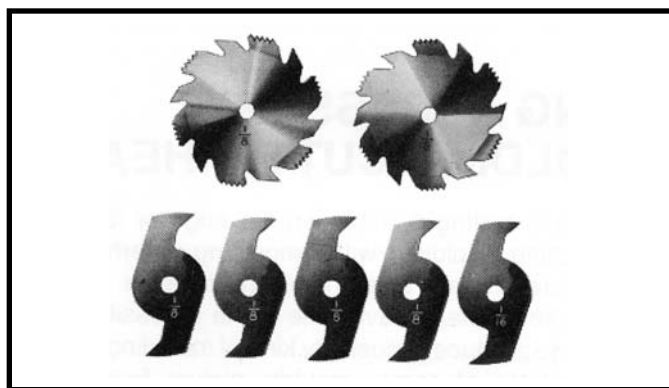
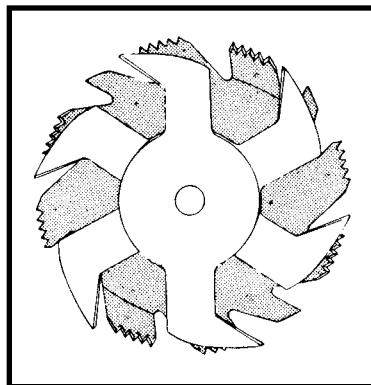
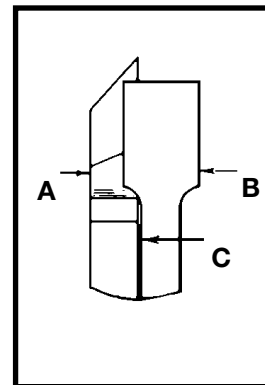

Fig. 136
Fig. 137
Fig. 138
1. Dadoing is cutting a rabbet or wide groove into the work. Most dado head sets are made up of two outside saws and four or five inside cutters, (Fig. 136). Various combinations of saws and cutters are used to cut grooves from 1/8" to 13/16" for use in shelving, making joints, tenoning, grooving, etc. The cutters are heavily swaged and must be arranged so that this heavy portion falls in the gullets of the outside saws, as shown in Fig. 137. The saw and cutter overlap is shown in Fig. 138, (A) being the outside saw, (B) an inside cutter, and (C) a paper washer or washers, used as needed to control the exact width of groove. A 1/4" groove is cut by using the two outside saws. The teeth of the saws should be positioned so that the raker on one saw is beside the cutting teeth on the other saw.